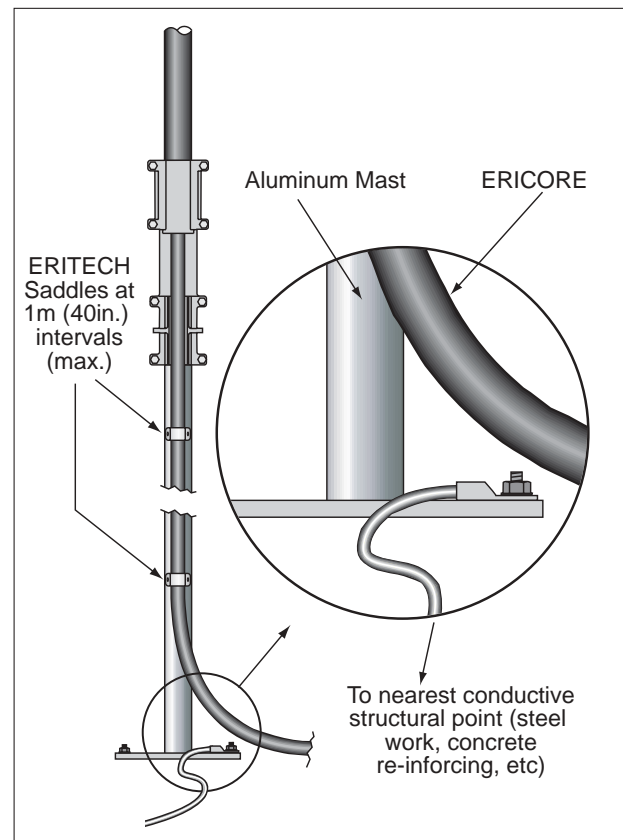

Figure 14: Connection of Structure Bonding Braid in FRP and F.S. masts.
- Bond metallic lower mast section to the nearest conductive structural point using 6mm² insulated copper cable. See figure 14
When using metallic lower sections of mast (ie: aluminum), then the downconductor **MUST** be secured with ERITECH saddles to the mast at 1m (40in.) intervals (max.). The mast in turn must be electrically bonded to the nearest conductive structural point. In this case, the structure bonding braid at the base of the upper termination does not need to be used (see Figure 14).